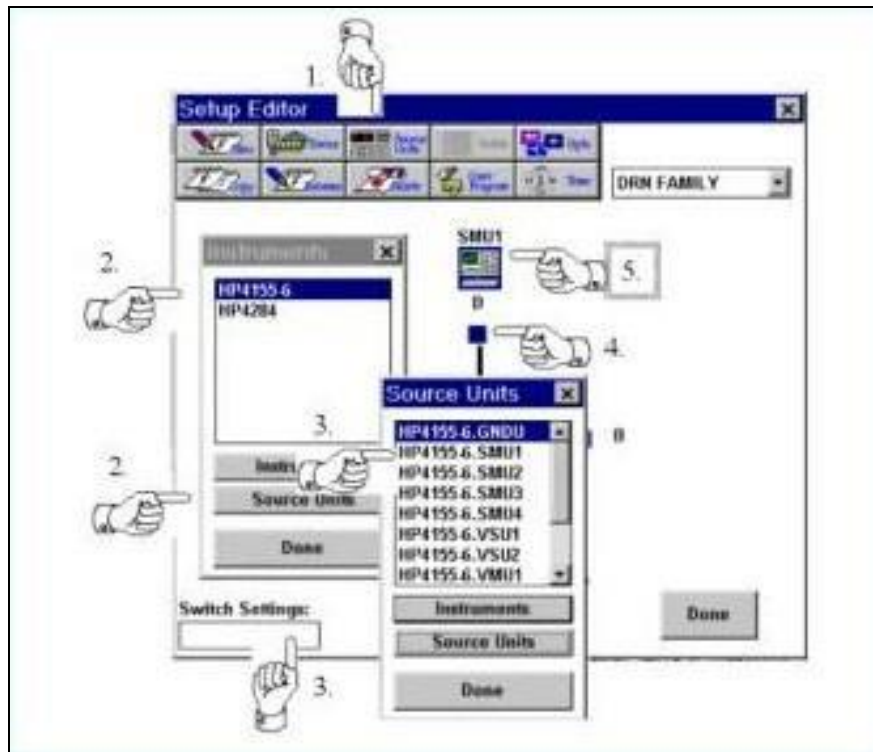

Figure 7
- iii. Select Source Units (Figure 7)